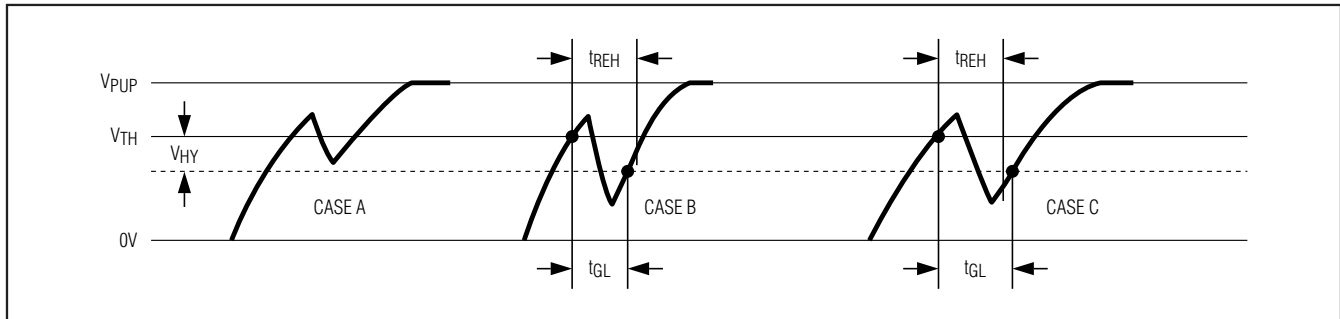

Figure 14. Noise Suppression Scheme
- 3) There is a hysteresis at the low-to-high switching threshold V_{TH} . If a negative glitch crosses V_{TH} but does not go below $V_{TH} - V_{HY}$, it is not recognized (Figure 14, Case A). The hysteresis is effective at any 1-Wire speed.
- 4) There is a time window specified by the rising edge hold-off time t_{REH} during which glitches are ignored, even if they extend below $V_{TH} - V_{HY}$ threshold (Figure 14, Case B, $t_{GL} < t_{REH}$). Deep voltage droops or glitches that appear late after crossing the V_{TH} threshold and extend beyond the t_{REH} window cannot be filtered out and are taken as the beginning of a new time slot (Figure 14, Case C, $t_{GL} \geq t_{REH}$).